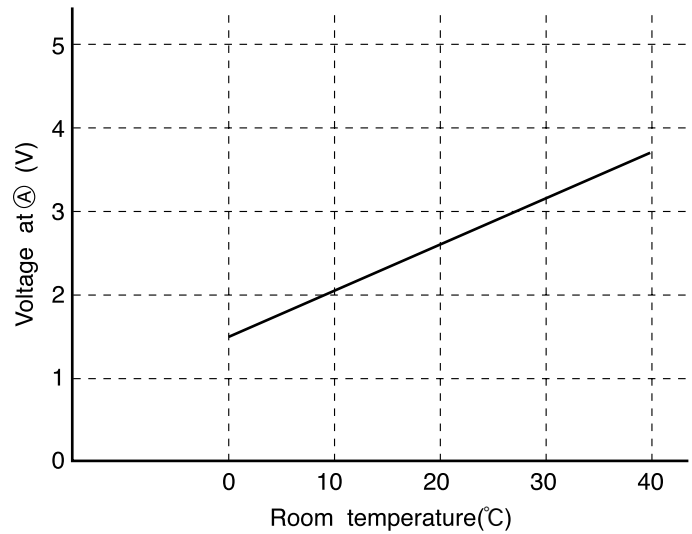

Fig. 5-2
The Voltage at (A) depends on the room temperature as shown in Fig. 5-2